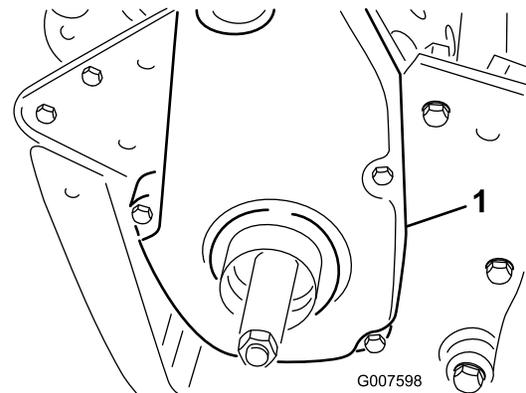

Figure 43
6. Remove the rear belt cover from the right side of the machine (Figure 43).